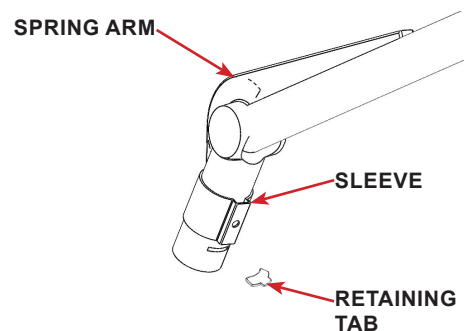

FIGURE 2.40 - Retaining Tab
STEP 3: Remove the retaining tab from the slot in the spring arm. Refer to FIGURE 2.40
STEP 6: Insert the light head slip ring attachment into the spring arm receptacle and align the slot with the groove on the light head assembly, insert and hold in place, the retaining tab. Refer to FIGURE 2.40 and 2.41